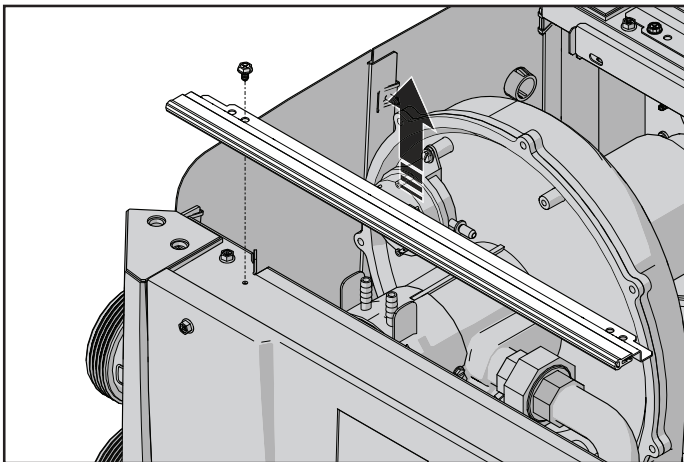

Figure 36. Remove Gasket Retainer Bracket
8. Remove one screw to take off the gasket retainer bracket (Figure 36).